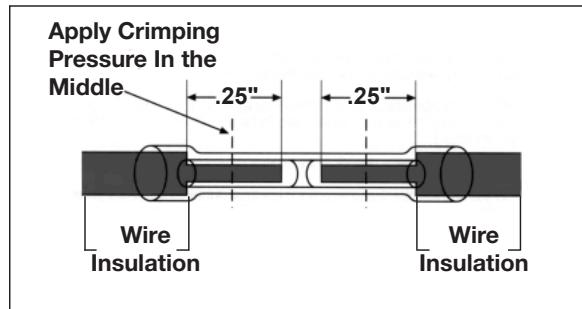

Figure 7
- Splice joints must be adequately sealed and insulated. Adhesive-lined heat shrink tubing is highly recommended to cover soldered and bare metal barrel crimp joints (**Fig. 7**).
NOTE: It is important to remember that a solid electrical connection is essential when installing any electrical device or option. A proper crimp is shown in (**Fig. 7**).